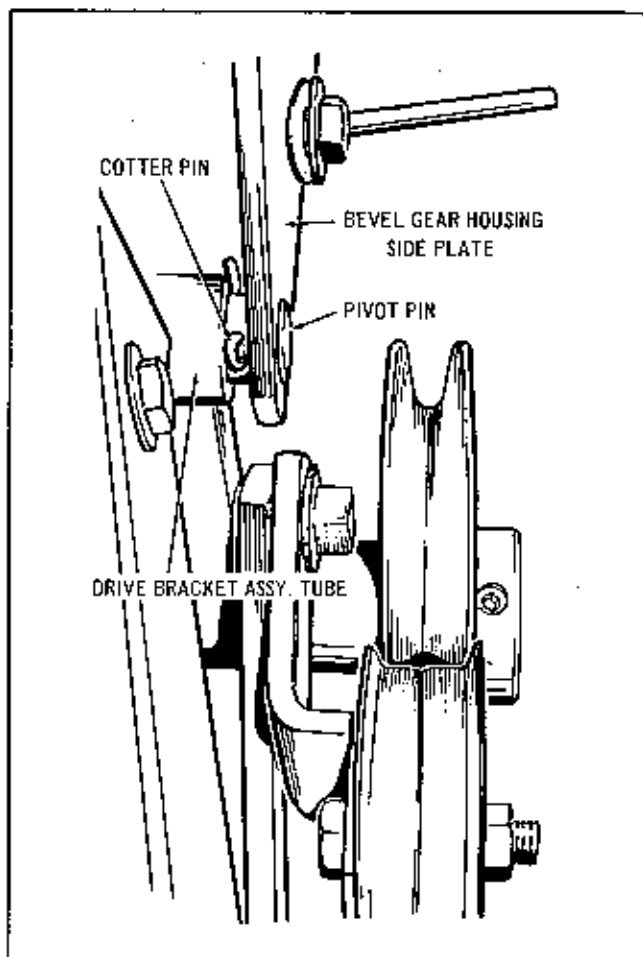

FIGURE 3
3. Push Pivot Pin through the holes in Bracket and Tube until the position of Cotter Pin Hole in Pivot Pin is as shown in Figure 3. Secure in position with Cotter Pin furnished.